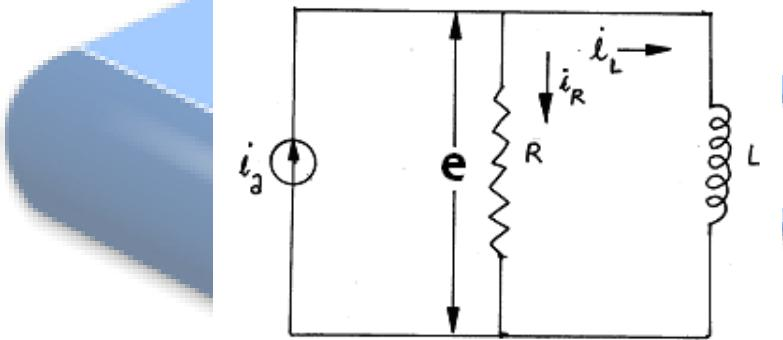

Fig.4.9.
**Q.4.2.** Find system transfer function between function between the inductance current to the source current in the following RL circuit as shown in Fig.4.9.